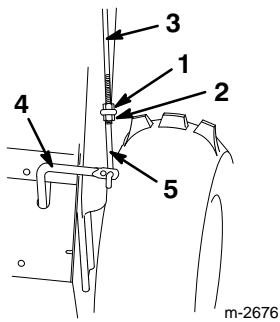

Figure 10
1. Thread a flange nut (flange side down) onto the upper control rod located on the right handle (Fig. 10).
2. Install the lower link through the outer hole in the lower control rod (Fig. 10).
3. Insert the upper control rod through the loop in the lower link (Fig. 10).
4. Thread a flange locknut (flange side up) onto the bottom of the upper control rod below the loop in the lower link (Fig. 10).
8. Tighten the two flange locknuts securely (Fig. 10).